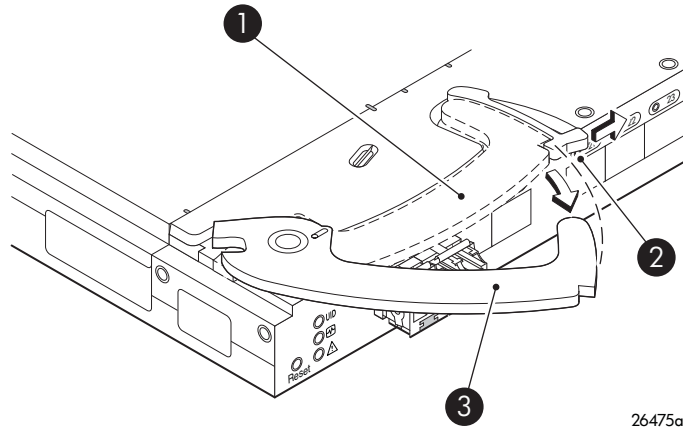

Figure 4 Releasing the installation handle
3. Press the handle latch to release the installation handle. See Figure 4.